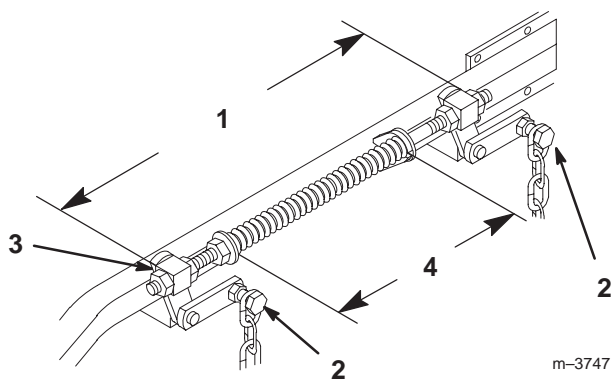

Figure 64
- Loosen four (4) top chain bolts in slots. Check the length of the rod/swivel assemblies. Distance from outside of rear swivel to outside of front swivel should be 19–17/32 inch (496 mm) (Fig. 64). Make sure that all four swivels move freely in holes.
2. Springs are compressed so the distance between the two large washers should be 10–1/4 inch (260 mm) (Fig. 64).
3. Adjust by turning nut in front of each spring (Fig. 64). Clockwise will shorten spring; counter-clockwise will lengthen spring.